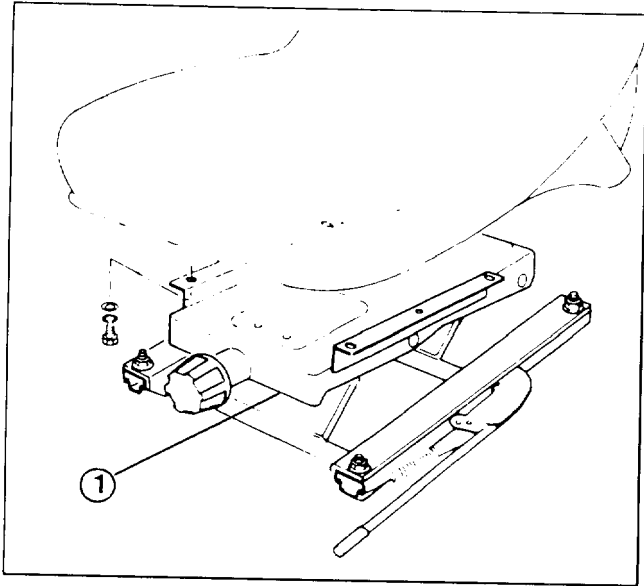

Figure 6
- Secure seat suspension to seat mounting plate with (4) flange locknuts (Fig. 6).
- Mount seat to seat suspension with (4) capscrews, lockwashers and flatwashers (Fig. 6 & 7).